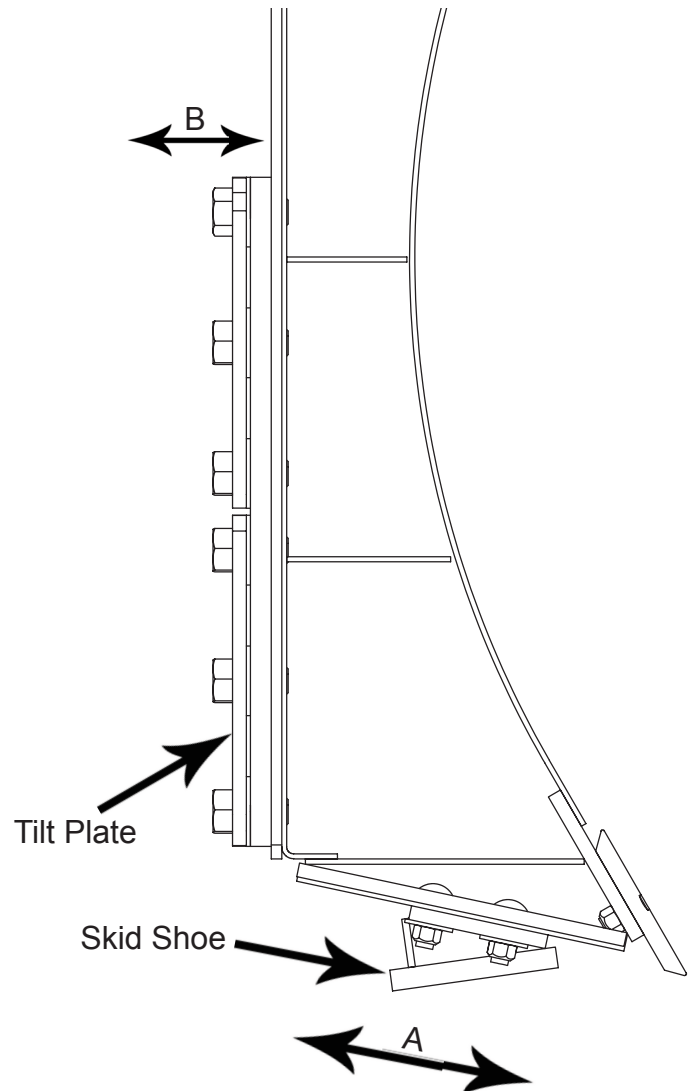

Figure 1
2. Loosen nuts and set skid shoe depth by sliding the shoe back and forth in direction 'A' shown in Figure 1.
2. Add or remove washers as needed to adjust tilt-way clearance to have $1/16"$ - $1/8"$ of clearance in direction 'B' shown in Figure 1.